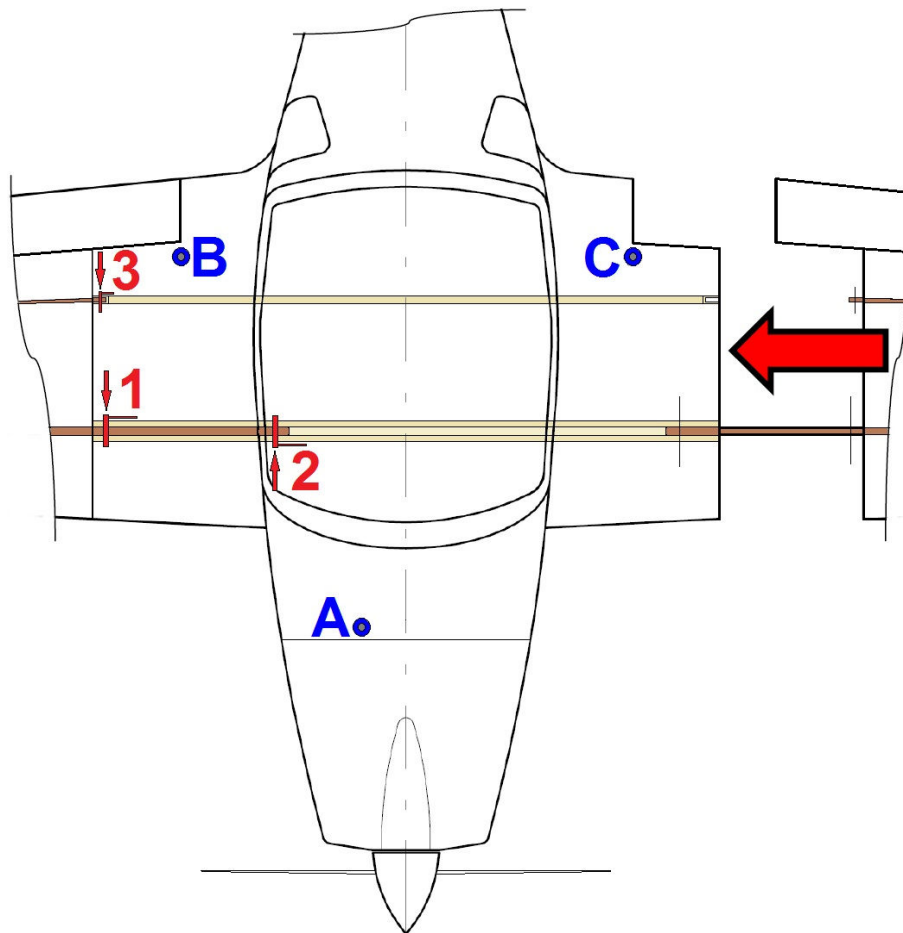

Fig. 2 Insertion of the wing spar into the wing centre section, position of the wing pins (1, 2 and 3) and the support points (A, B and C)
1. Fit the spar end of the wing into the spar end (fork) of the wing central section and push the wing along its longitudinal axis so that a connection slot between the wing central section and the wing root is approx. 100 mm. Connect the hoses from the Pitot probe (only right wing), prepare and adjust the wing fuel tank hoses and connect the wiring for fuel tank conductive connection (if the wing is equipped with fuel tanks) and position lights (Fig. 2).
6. Pull out the wing along its longitudinal axis so that there is an approx. 100 mm distance between the wing central section and the wing root (Fig. 2). Disconnect the hoses from the Pitot probe (only right wing), the wing fuel tank hoses and wiring for fuel tank conductive connection (if the wing is equipped with fuel tanks) and position lights.